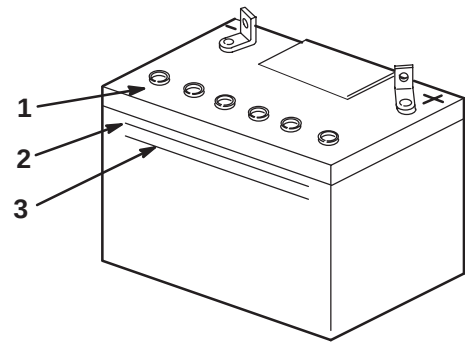

Figure 60
2. Look at the side of the battery. The electrolyte must be up to the **upper** line (Fig. 60). Do not allow the electrolyte to get below the **lower** line (Fig. 60).
3. Remove the vent caps from the battery (Fig. 60).
4. Slowly pour distilled water into each battery cell until the level is up to the **upper** line (Fig. 60) on the battery case.
- Wait five to ten minutes after filling the battery cells. Add distilled water, if necessary, until the electrolyte level is up to the **upper** line (Fig. 60) on the battery case.